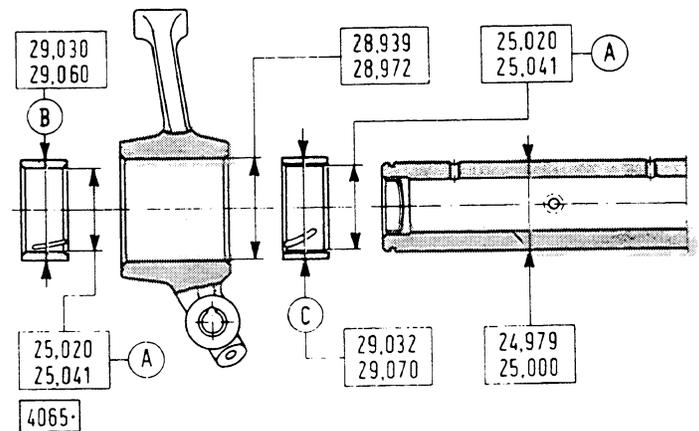

Fig. 26 - Rocker, Sleeve Bearing and Rocker Shaft Dimensions
- Only bronze replacement bushes (C, Fig. 26) are available, whereas the bearings originally fitted in production may consist of white-metal-lined steel shells (B).